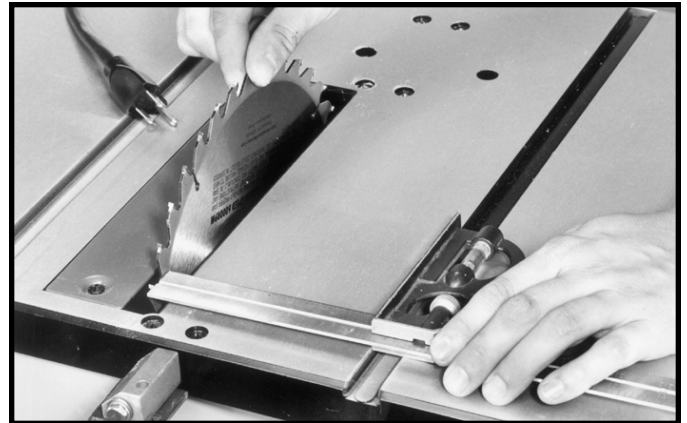

Fig. 46
5. Rotate the blade and check the same marked blade tooth at the rear of the saw table in the same manner, as shown in Fig. 46.